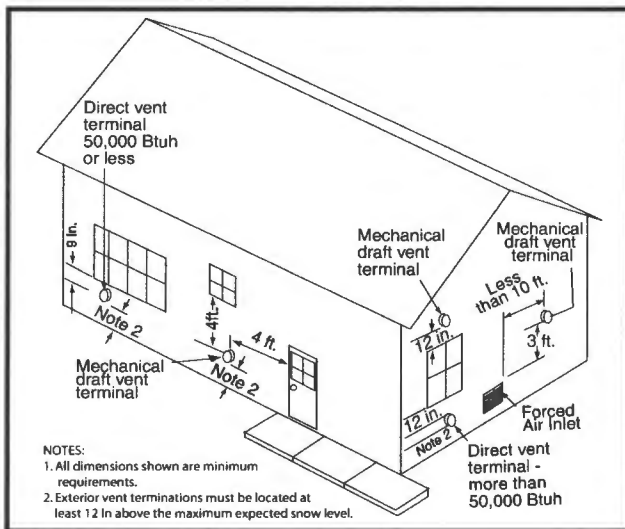

Figure 7 Vent Locations
- All minimum clearances must be maintained to protect building materials from degradation by flue gases as shown in Figure 7.